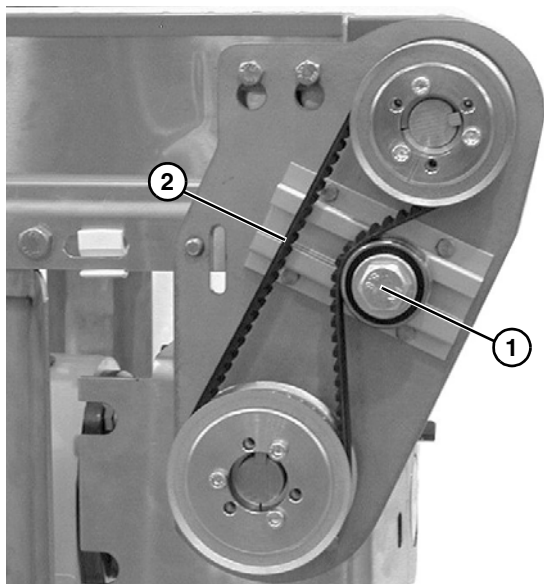

Figure 15
- Tension timing belt to obtain 1/8" (3 mm) deflection for 6 lb (3 Kg) of force at timing belt mid-point (Figure 15, item 2). Tighten tensioner screw (Figure 15, item 1) to 110 in-lb (12 Nm).